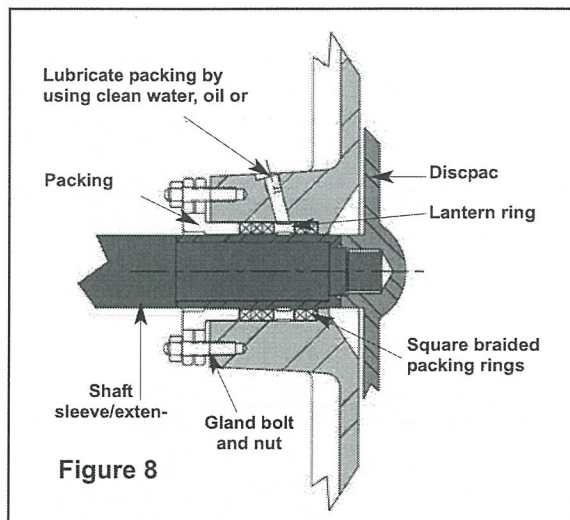

Figure 8
5. Lantern ring may be placed in any position in the box as long as it aligns with the flush injection port. The standard ring position (#3) is shown in **Figure 8**. It is also available in positions #1, #2 and #4, depending on the application.